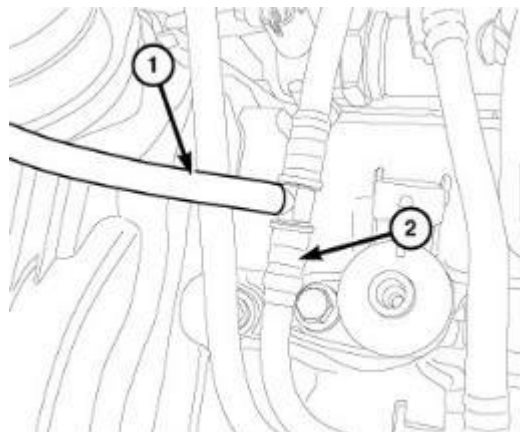

Figure 42 – Fuel Injector Return Line to Low Pressure Return Line
38. Remove the fuel injector return line (1) from the main low pressure return line (2) (Figure 42).